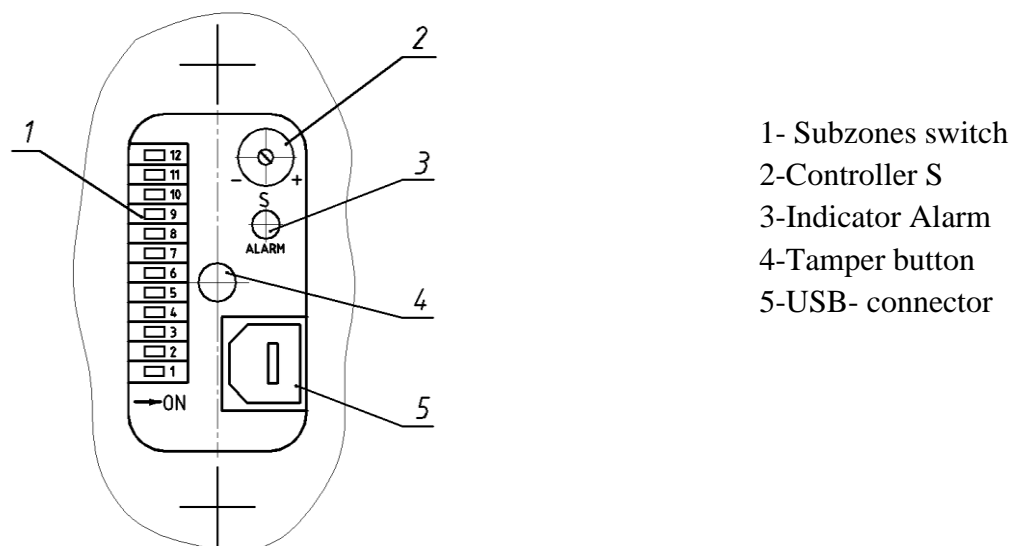

Fig.9.2 Built-in adjustment and indication parts
- 9.1.3.** The necessary configuration of the detection zone is set with 12-position micro switch. The sensitivity is changed with the controller Sensitivity (S) as shown in fig.9.2.